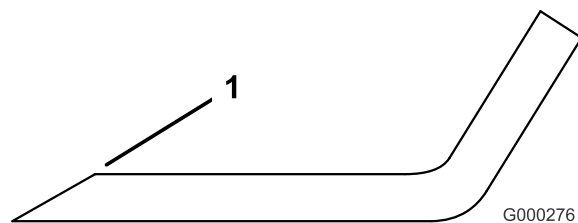

Figure 63
1. Use a file to sharpen the cutting edge at both ends of the blade (Figure 63). Maintain the original angle. The blade retains its balance if the same amount of material is removed from both cutting edges.